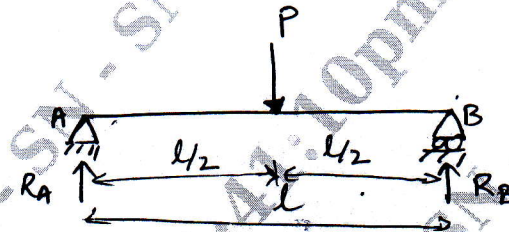

Fig.Q8(c)
- c. A simply supported beam of span 'l' carries a point load 'P' at mid-span. Determine the strain energy stored by the beam. Also find the deflection at mid-span. [Refer Fig.Q8(c)]